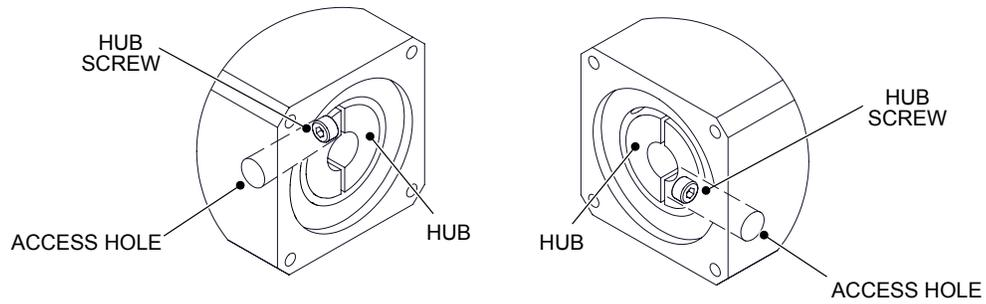

Figure 9 Drive Motor Replacement
3. See Figure 9. Disconnect the coupling between the drive motor (5) and inline gear head (8):
- a. Remove the plugs (7) from the inline gear head (5) to access the coupling.
- b. Manually turn the drive shaft to expose the hub screws. Use a hex wrench (6) to loosen the hub screws.
4. Remove the screws (3) and lock washers (4) securing the drive motor (5) to the inline gear head (8). Remove the drive motor from the inline gear head.